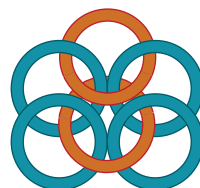

FIG. 3
4. Thread 1 open (orange) jump ring through the 2 (blue) jump rings at the end of the chain and then close it (FIG. 3).